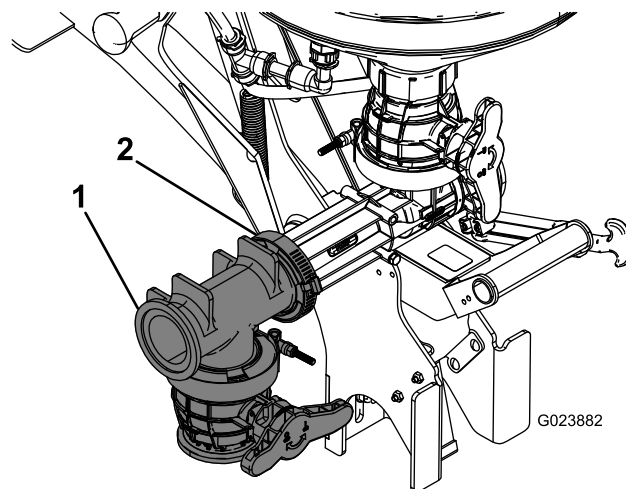

Figure 13
12. Connect the T-valve to the eductor assembly using a gasket and a worm-screw clamp (Figure 13).